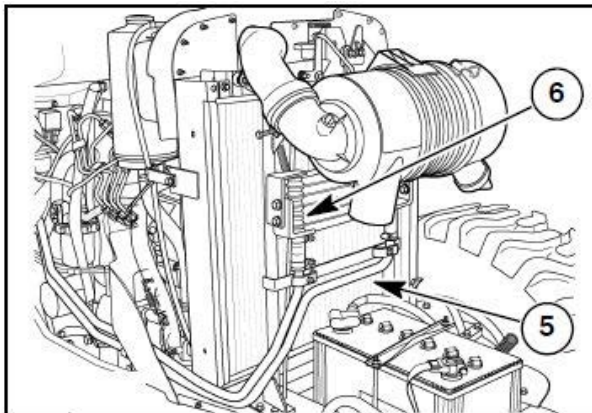

Figure 3-23
4. Keep the radiator fins (5) in Figure 3-23, clear of chaff or dirt to allow free air movement.
5. HST transmission only, there is an oil cooler (6) in Figure 3-23, located in front of the radiator and underneath air cleaner. Keep fins of cooler clean of any buildup of material, so that transmission oil can be cooled.